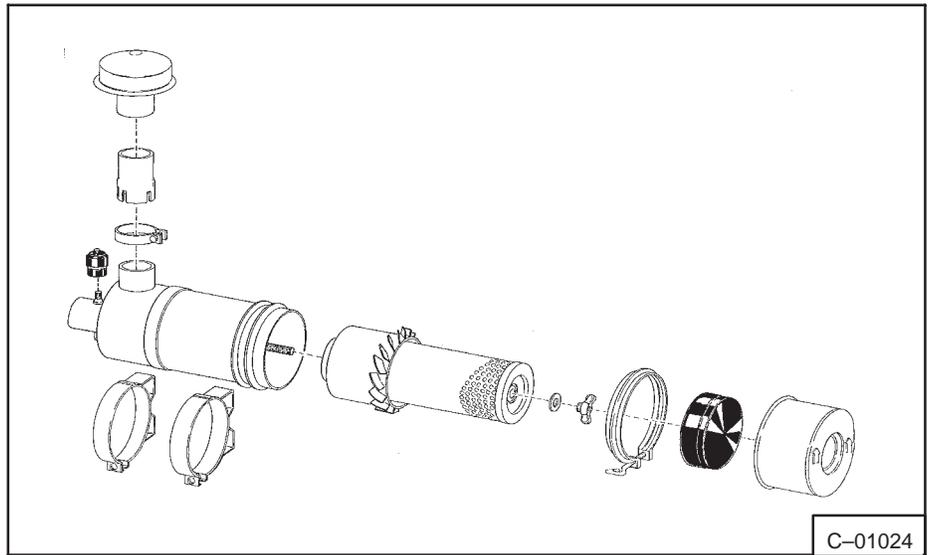

**Fig. 1-6** Hydraulic fluid Level Check
11. Check for leaks and check level of fluid. It should need 2 quarts (1.9 ltr.) for filter element. Fill to the upper check plug (Fig. 1-6).